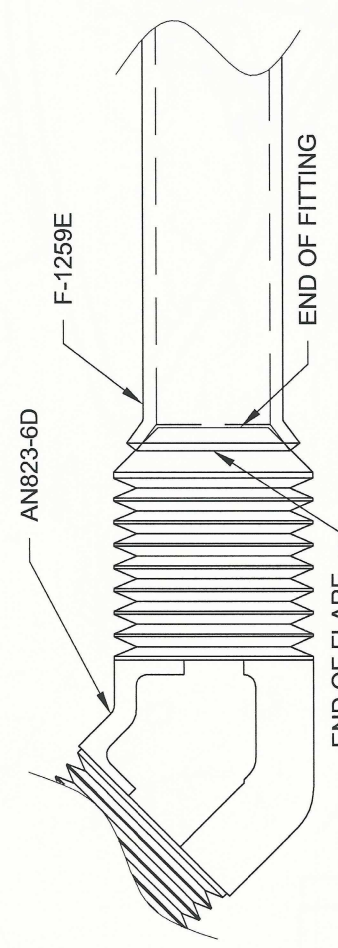

FIGURE 2: EXTRA LENGTH FOR FLARE
Step 3: Insert the F-1259E Fuel Line Pump - Valve through the snap bushings in the F-1204A and F-1204D Center Section Bulkheads. Insert the fuel line through the right most hole in the F-1203A Bulkhead. Temporarily attach the nut to the ES 40105 Fuel Pump. Lay the tube into the right most recess in the F-1276C Systems Blocks adding a slight curve to follow the curvature of the F-1276 Bottom Skin. Add two slight bends to the fuel line where it passes through the F-1203A Bulkhead to align the front of the tube with the fitting on the fuel valve. Mark then cut the forward end of the tube as shown in Figure 2.